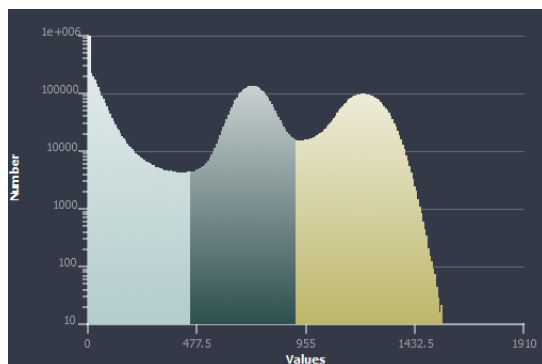

Figure 3.30: Histogram with 3 intensity ranges
- Set the Number of ranges to 3, and press Detect. You can see a new slider port and an updated histogram with a new region/range as shown on Figure 3.30.